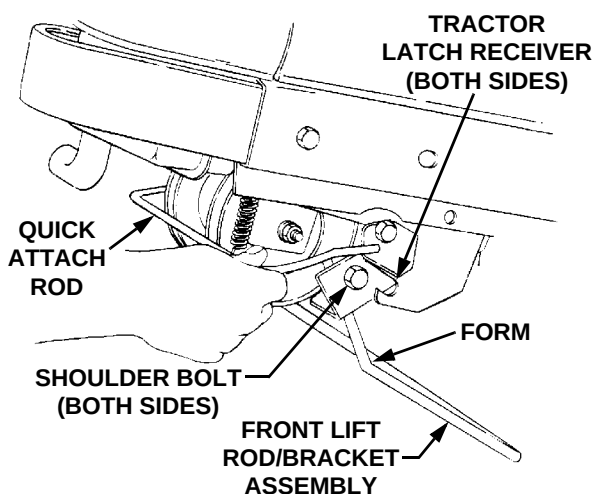

Figure 36
6. Refer to Figure 36 to ensure the correct orientation of the front lift rod/bracket assembly [the form (bend) in sides of rod point downward]. From the front of the tractor, push downward and hold the tractor quick-attach rod. Slide the shoulder bolts on each side of the front lift rod/bracket assembly fully into the left and right tractor latch receivers.